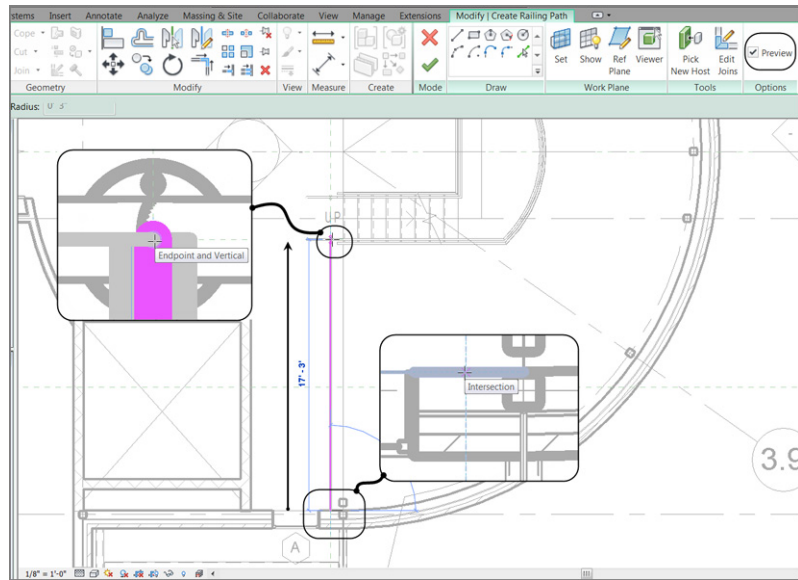

FIGURE 10.25: Sketching the path of the railing
10. Pick a point at the intersection of the reference plane and the south wall, as shown in Figure 10.25.
11. Click the Preview button on the Options bar (see Figure 10.25).
12. Pick the intersection of the reference plane and the ADA - Handrail (see Figure 10.25).